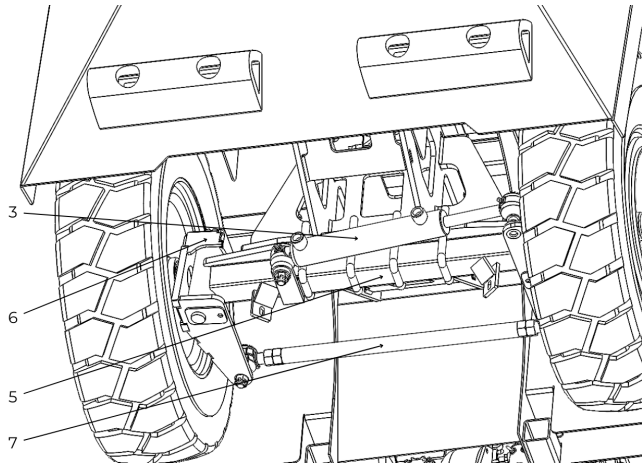

Figure 28. General Steering Inspection.
- Steering cylinder (3). (See Figure 28)
- Axle beam (5). (See Figure 28)
- Right and left knuckles (6). (See Figure 28)
- Tie rod (7). (See Figure 28)